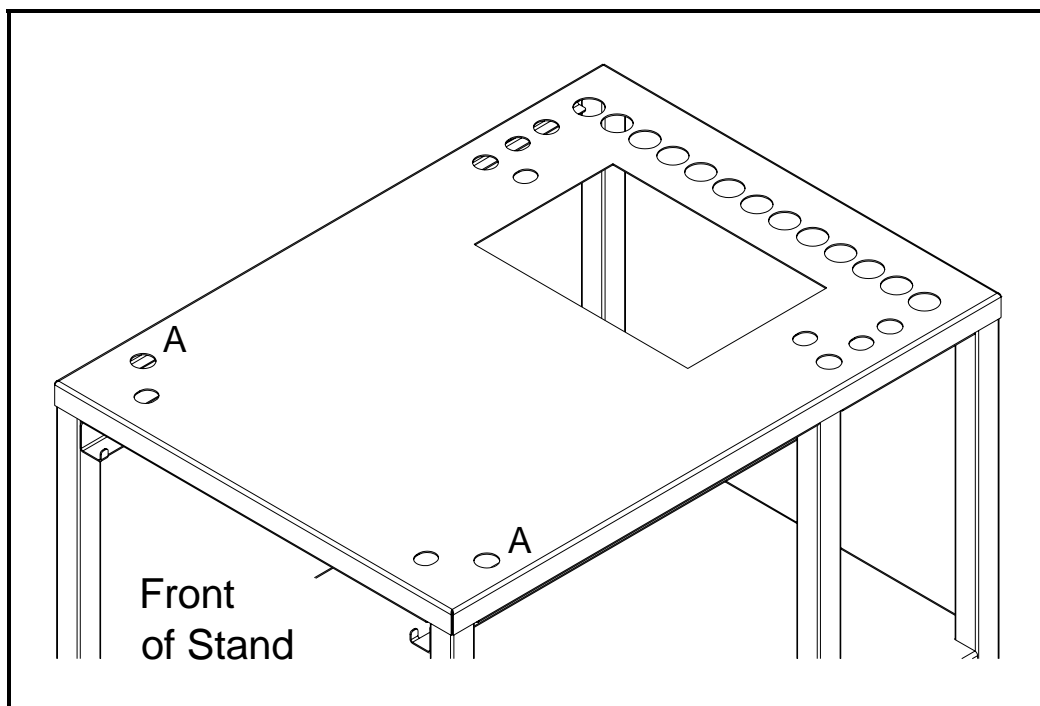

Figure 1
2. Set lower steamer (has 2" hole in top panel) directly on stand as shown in Figure 4 on page 5 (4-inch legs provided with steamer are not used when installing SteamCraft® steamers on a stand). Align steamer so that front mounting bolts will come up through holes marked "A" in Figure 1 below.